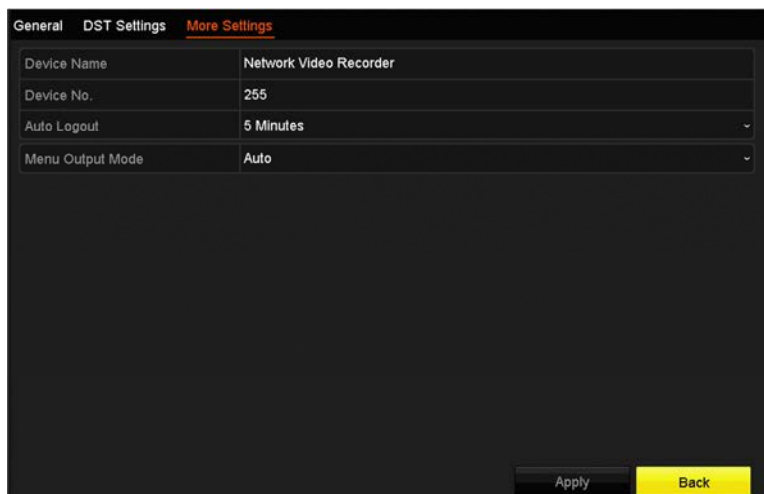

Figure 13-3 More Settings Interface
2. Click **More Settings** to enter the More Settings interface, as shown in Figure 13-3.